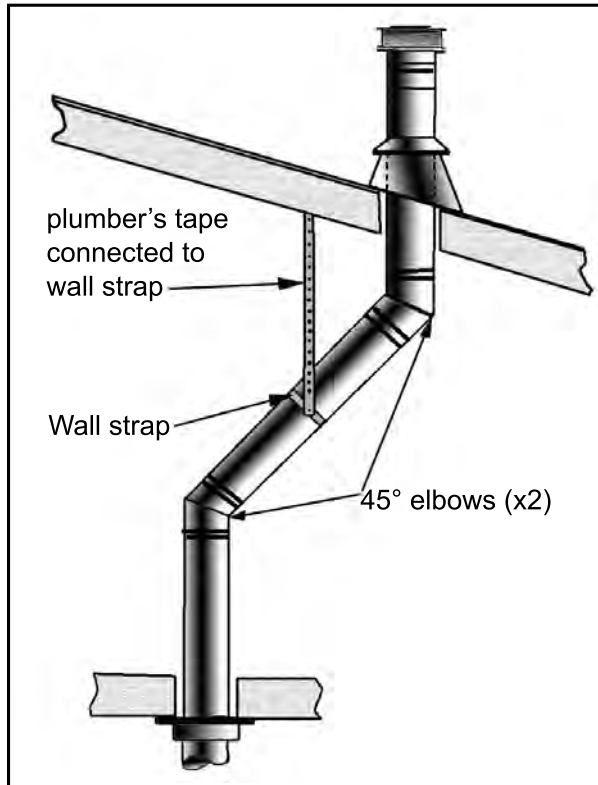

Figure 39: Use of Wall Straps.
- (a) If an offset is necessary in the attic to avoid obstructions, it is important to support the vent pipe every 3 feet (91 cm), to avoid excessive stress on the elbows, and possible separation. Wall straps are available for this purpose (see Figure 39).